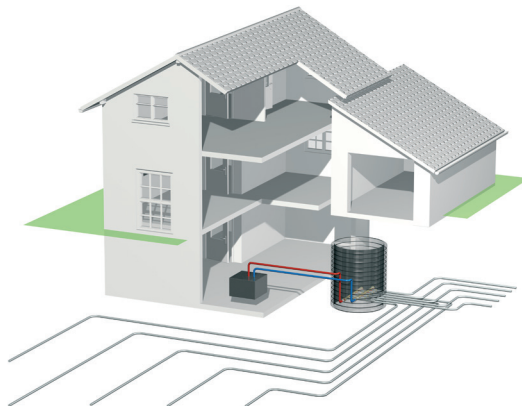

Fig. 2: Horizontal ground loop, RAUGEO Collect
- RAUGEO Collect (horizontal loop). See Fig. 2.